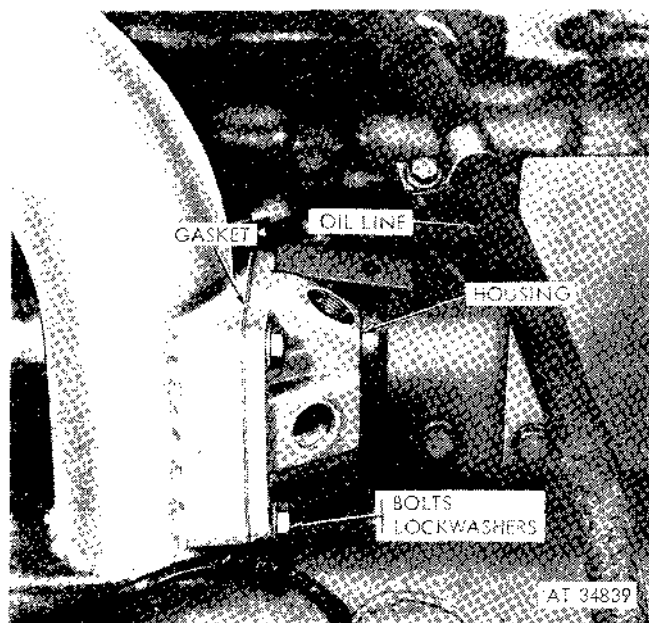

Figure 2-101. Removing spark plug housing.
(3) Remove the four bolts and lockwashers securing the housing to the intake elbow. Separate the oil line and clamp from the housing. Remove the housing and gasket (fig. 2-101).
(1) Mount the housing with a gasket on the intake elbow. Secure the housing (as well as the oil line and clamp assembly) with four lockwashers and bolts (fig. 2-101).